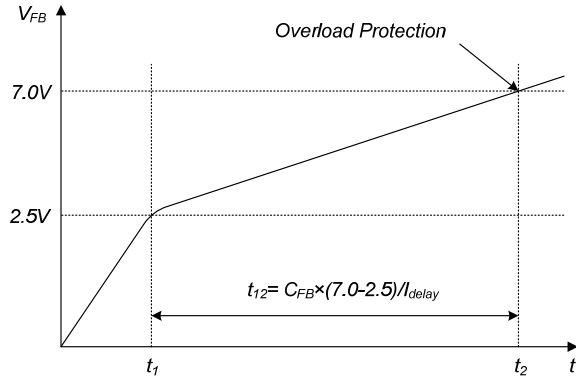

Figure 20. Overload Protection
7.0V, when the switching operation is terminated, as shown in Figure 20. The delay for shutdown is the time required to charge C_{FB} from 2.5V to 7.0V with $2.0\mu A$. A 25 ~ 50ms delay is typical. This protection is implemented in auto-restart mode.